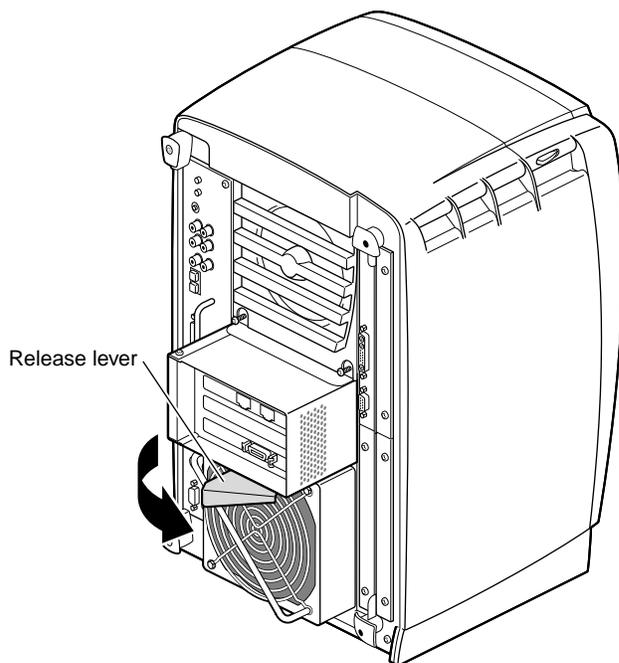

Figure 1-5 Opening the Release Lever
2. Pull the release lever toward you and to the right. You will feel resistance as you open the lever. Continue to pull until the lever is at the angle shown in Figure 1-5. The lever releases the locking mechanism that attaches the PCI module to the workstation.